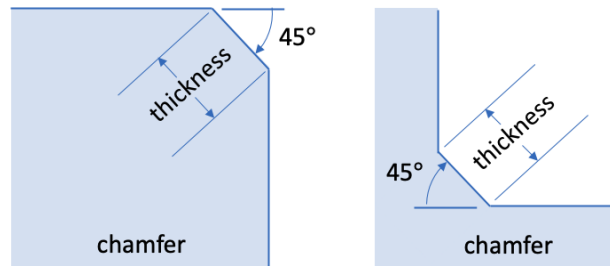

Figure 8. Chamfer Examples
together in the power tool as a collection of surfaces that can be expanded and examined individually. Chamfer chains are ordered based on the narrow thickness of the surfaces illustrated in Figure 8. Setting the **Chamfer Thickness** threshold in the Options panel will control which chamfer chains will be identified. The default value for **Chamfer Thickness** threshold is the current **mesh_size**. Since chamfers with small thickness can effect the resulting size of the elements the remove surface option is often used to eliminate them.
- Blend Chains** - A blend surface serves as a smooth transition between two neighboring surfaces, such as a fillet as shown in Figure 8. Blends are identified as surfaces having a constant radius along one of its parametric directions. Blends often occur as a chain or connected set of surfaces and are displayed as a collection of surfaces in the power tool that can be expanded and examined individually. Enter a **Blend Radius** threshold value at the top of Geometry power tools options panel to control the maximum radius of curvature for surfaces returned from this test. The default value for **Blend Radius** threshold is the current **mesh_size**. Resulting blend surfaces are ordered based upon their minimum radius of curvature. Blend chains can be candidates for the remove surface blend chain or split surface commands.